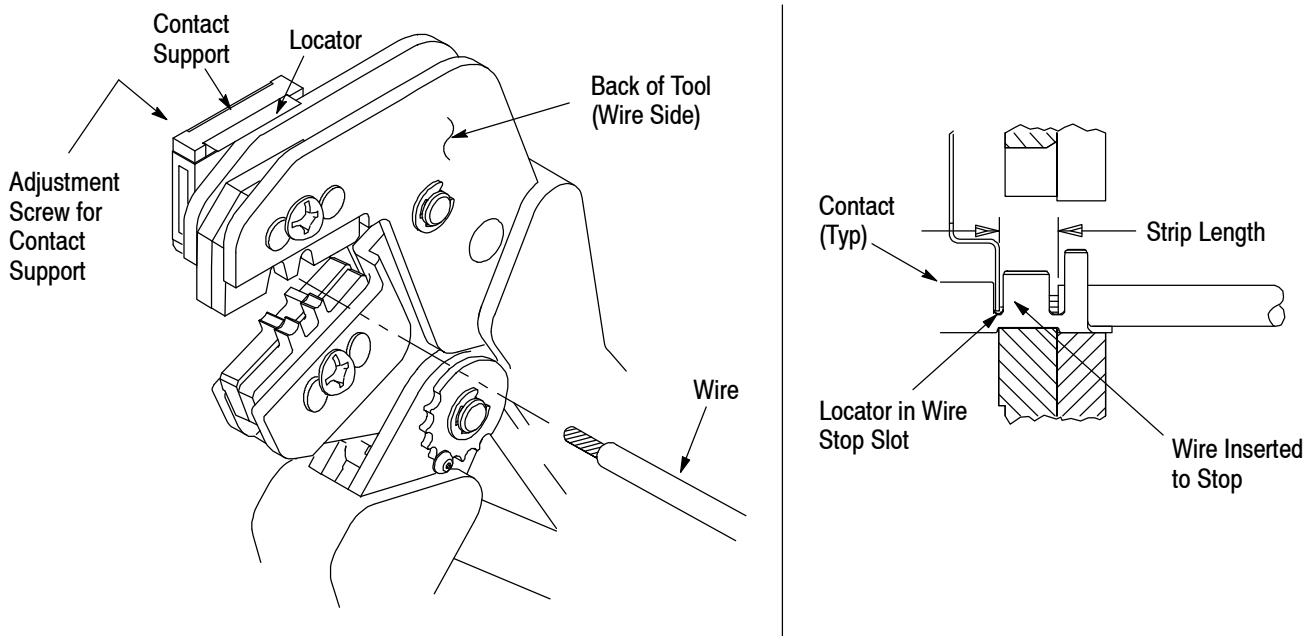

Figure 3
4. CONTACT SUPPORT ADJUSTMENT (Figure 3)
Refer to the table in Figure 1 and select wire of the specified size and insulation diameter. Strip the wire to the length indicated in Figure 1, taking care not to nick or cut wire strands. Select an applicable contact and identify the appropriate crimp section according to the wire size markings on the tool. Refer to Figure 3 and proceed as follows:
3. Position the contact so that the mating end of the contact is on the locator side of the tool, and so that the open “U” of the wire and insulation barrels must face the top of the tool. Place the contact up into the nest so that the movable locator drops into the slot in the contact. Refer to Figure 3. Butt the front end of the wire barrel against the movable locator.
5. Insert stripped wire into contact insulation and wire barrels until it is butted against the wire stop, as shown in Figure 3.
NOTE The crimped contact may stick in the crimping area, but the contact can be easily removed by pushing downward on the top of the locator (see Figure 3).